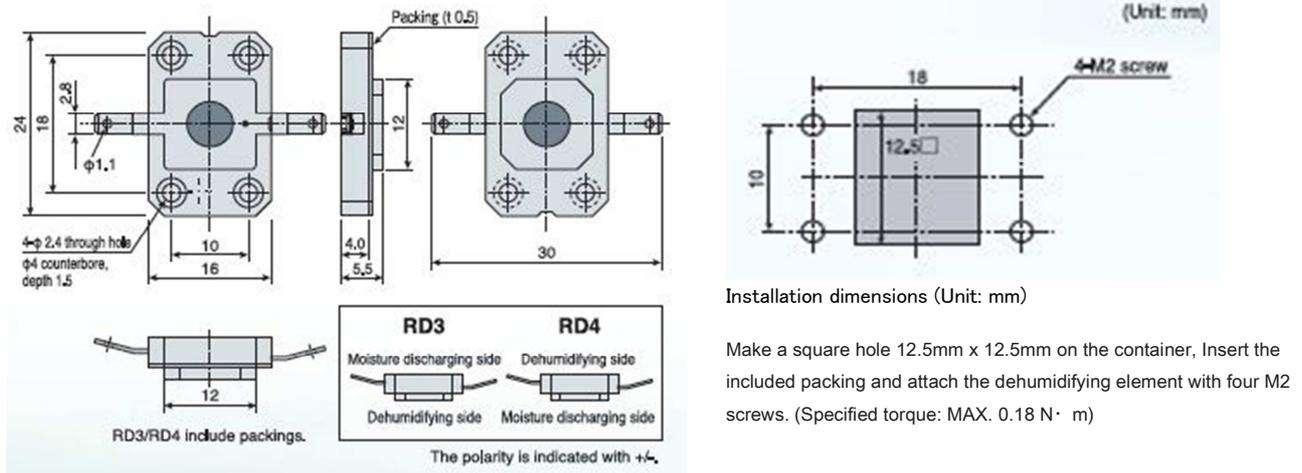

Fig.1
- 3 Make a square hole 12.5mm x 12.5mm and four M2 screw hole on the container on which you will install the dehumidifying element. (See Fig.1)
- *4 See Fig. 1.
- *5 See Fig. 1.